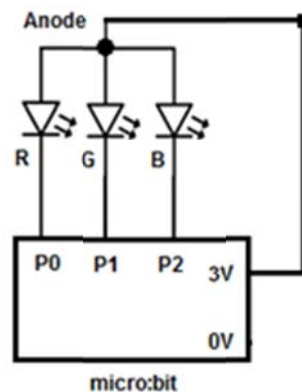

Figure 10. Experimental circuit to connect RGB-LED to micro:bit
- a) Referring to Fig. 10 (also given on the right), measure the voltage of P0, P1, P2 and the “3V” pin when RGB LED is turned on as red